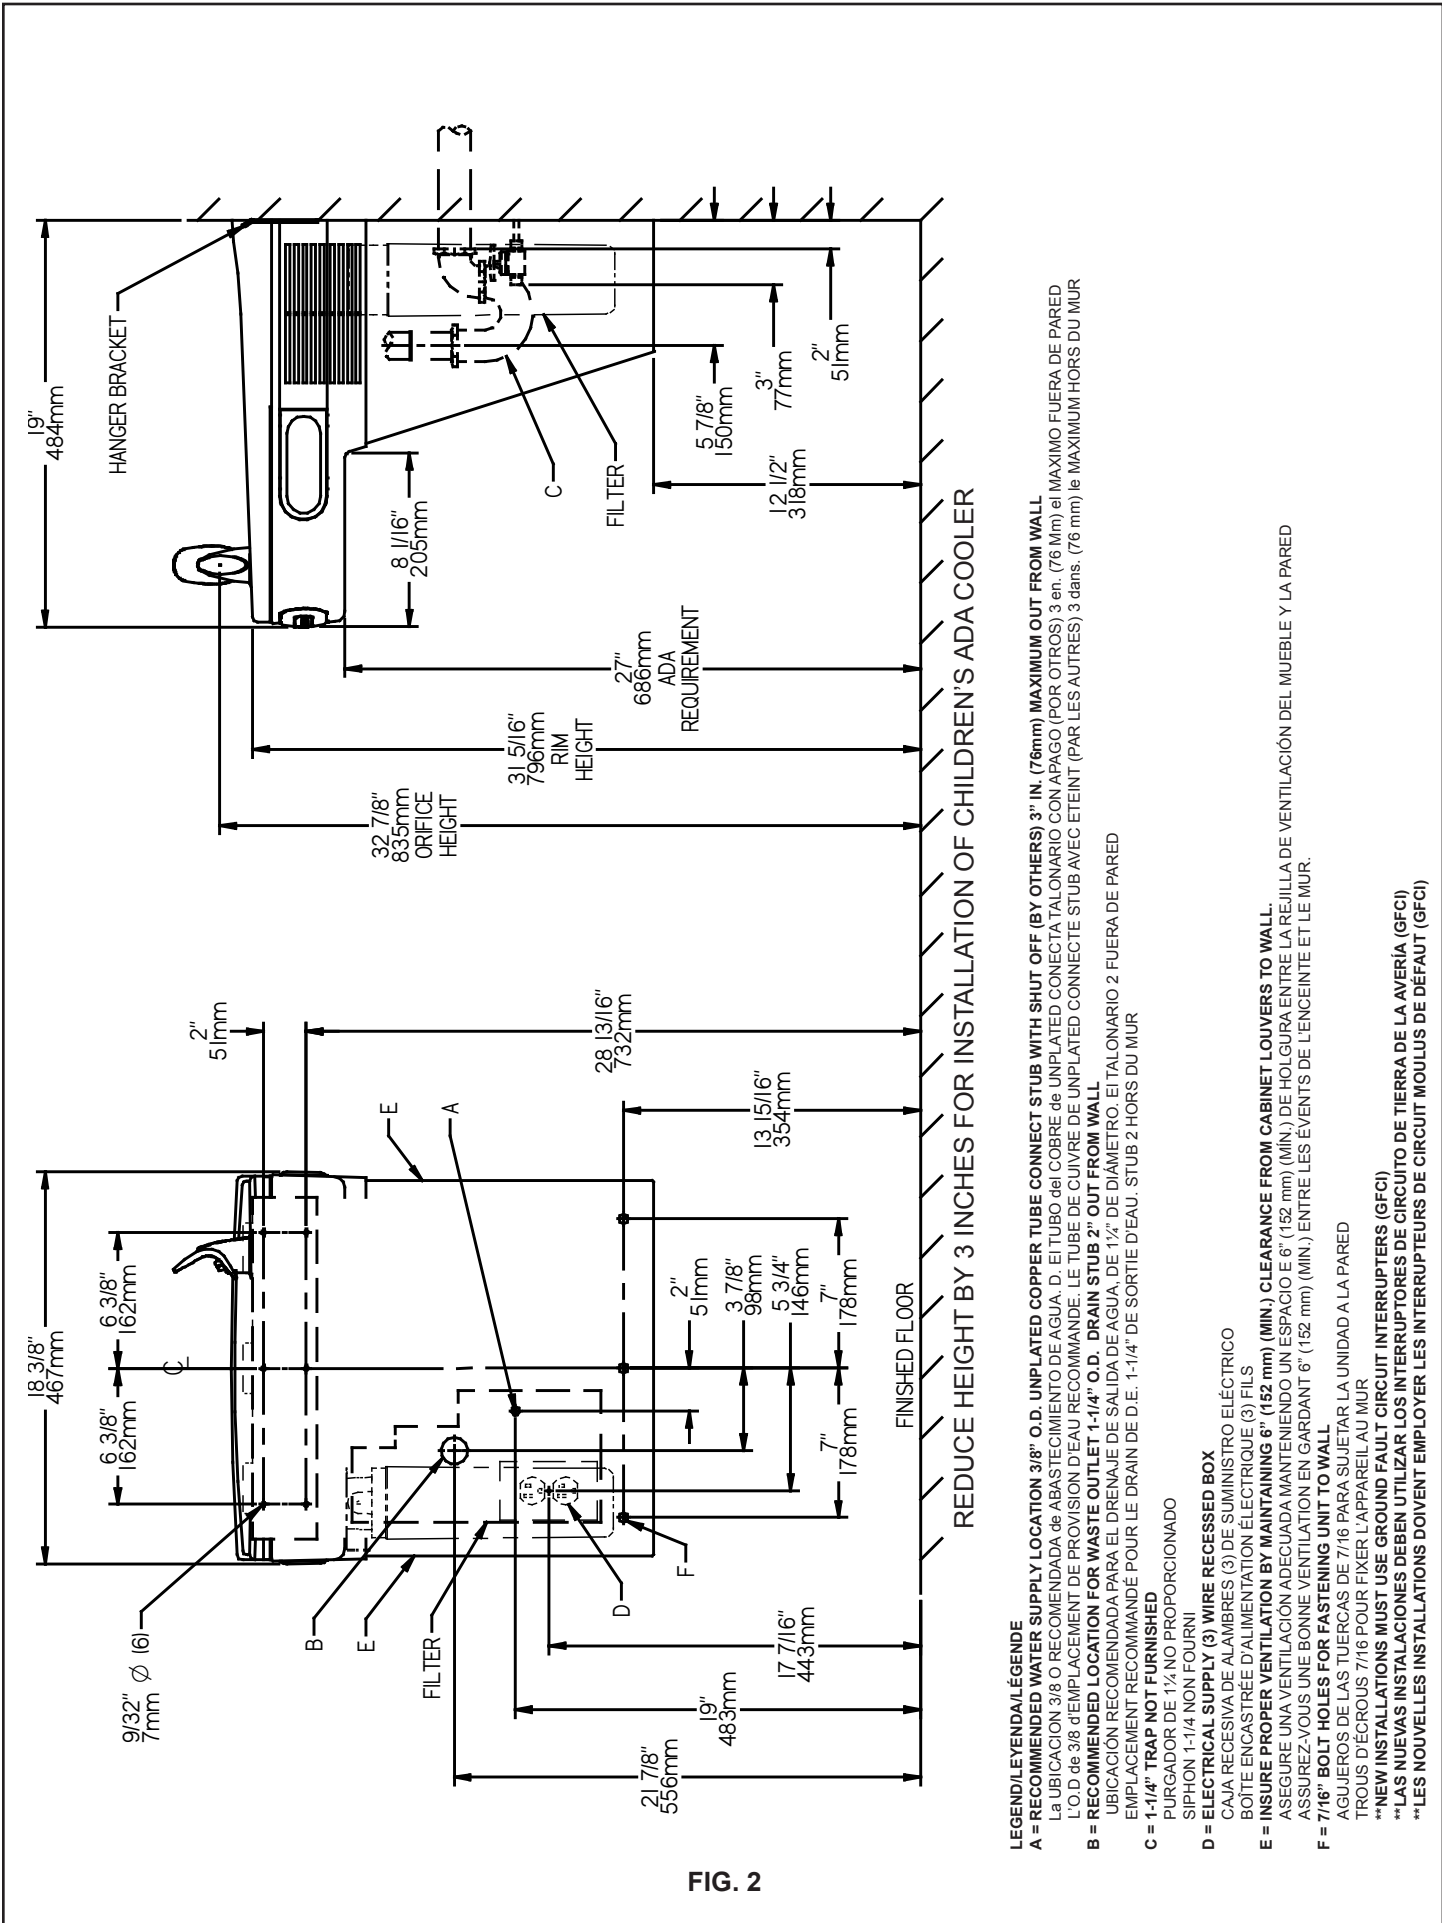

FIG. 2
- 1) Remove hanger bracket fastened to back of cooler by removing one (1) screw.
- 2) Mount the hanger bracket as shown in Fig. 2.
- 3) Hang the cooler on the hanger bracket. Be certain the hanger bracket is engaged properly in the slots on the cooler back as shown in Fig. 2.
- 4) Remove the four (4) screws holding the lower front panel at the bottom of cooler. Remove the front panel by pulling straight down and set aside.